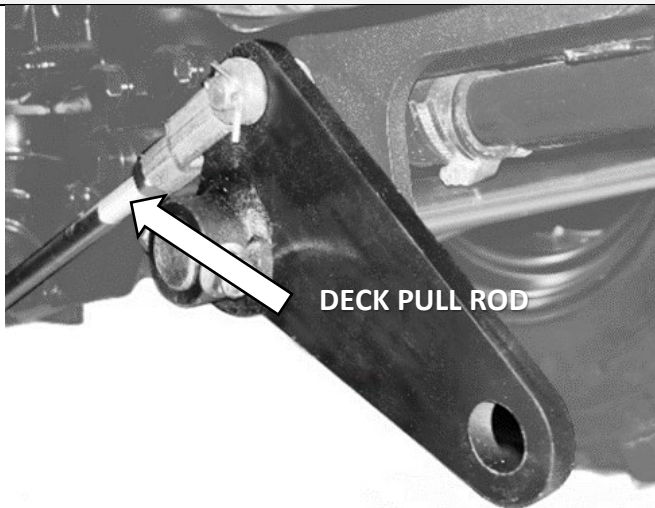

Figure 3B
3. Attach the Deck Pull Rods to the Mid Drag Links as shown (Figure 3B). Install both sides.